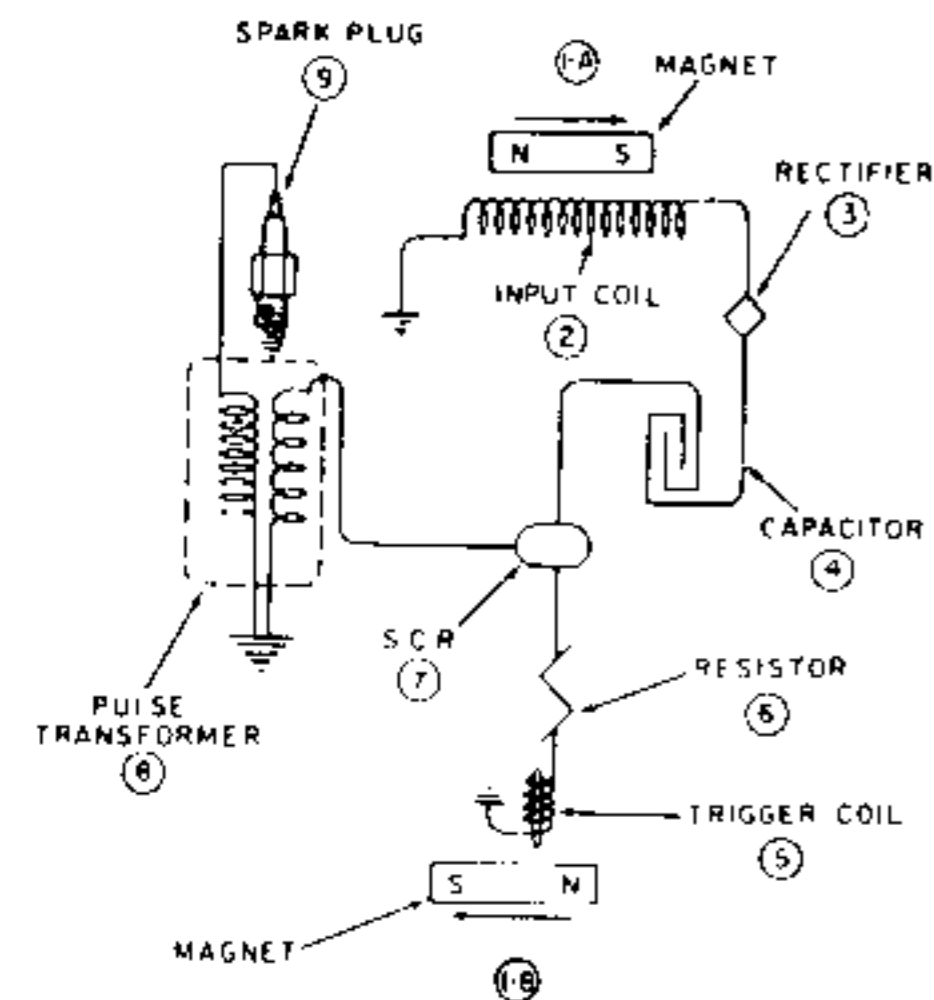

Fig. T20—Diagram of solid state ignition system used on some models.
position (1A—Fig. T20), a low voltage AC current is induced into input coil (2). Current passes through rectifier (3) converting this current to DC. It then travels to capacitor (4) where it is stored. The flywheel rotates approximately 180 degrees to position (1B). As it passes trigger coil (5), it induces a very small electric charge into the coil. This charge passes through resistor (6) and turns on the SCR (silicon controlled rectifier) switch (7). With SCR switch closed, low voltage current stored in capacitor (4) travels to pulse transformer (8). Voltage is stepped up instantaneously and current is discharged across electrodes of spark plug (9), producing a spark before top dead center.